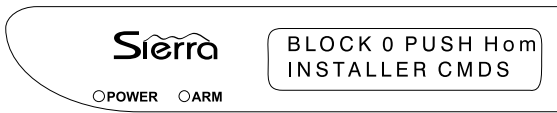

Figure 16
1. When using Keypad Activated RPS, the RPS Phone Number must be programmed into Block 4, CL 085 - 100. In addition, Keypad RPS Enable (Block 4, CL 106) must be programmed for Yes (2) and RPS/Modem Types (Block 4, CL 107) must match the configuration of the Commander II software. The phone lines must be connected to the Tip and Ring terminals on the Dialer (Line 1 only). Commander II must be running at the remote site.
2. Using an Alpha-numeric Keypad, enter the Installer Mode Programming. Select the Menu Programming Mode and go to Block 0 (Installer Commands). Press the [Home] key to accept. (See Figure 16, on next page.)